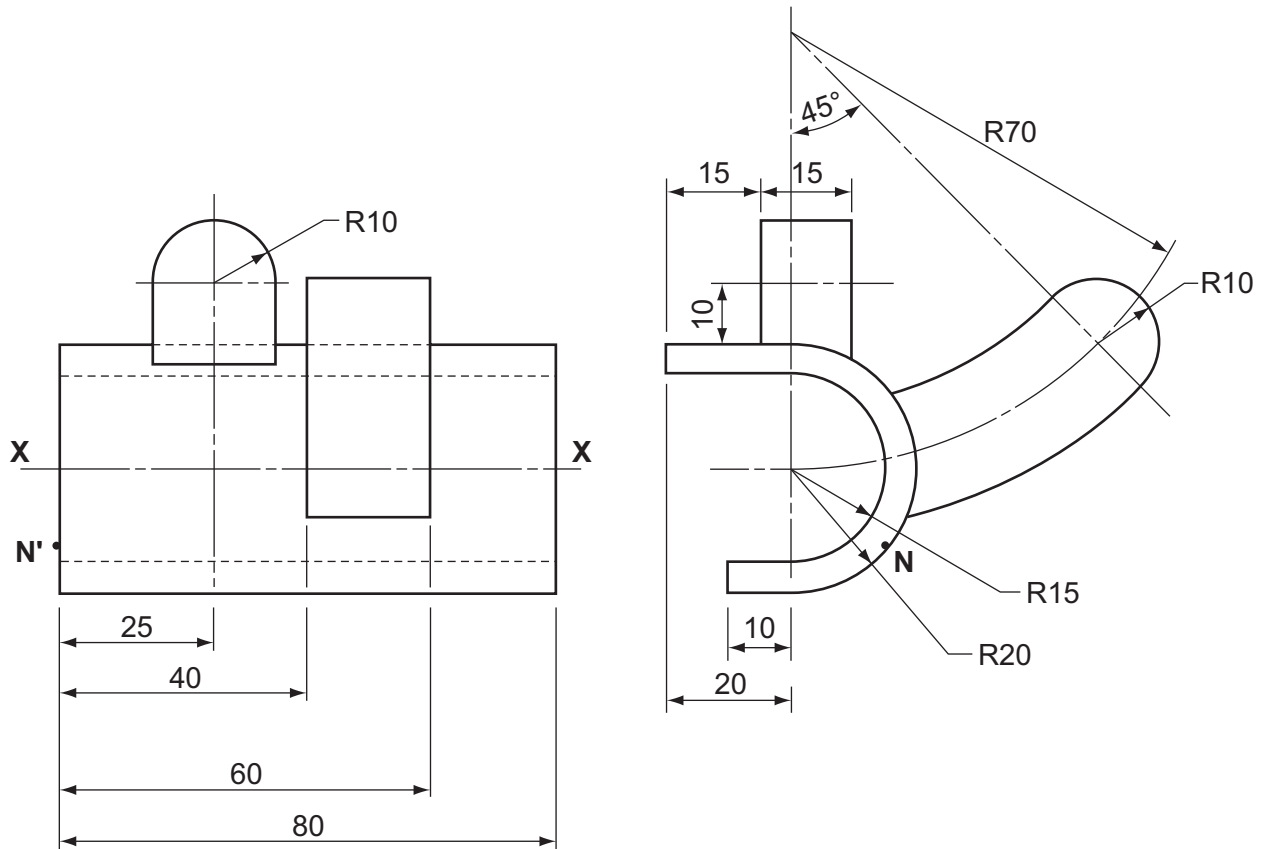

Fig. 9
- 9 Fig. 9 shows, in first angle projection, two views of a gear-shifter link casting before machining.